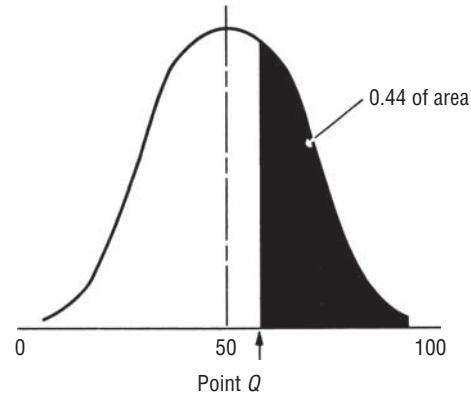

FIGURE 17-2 NORMAL PROBABILITY DISTRIBUTION, WITH 0.44 OF THE AREA UNDER THE CURVE SHADeD
Figure 17-2 illustrates the 0.44 probability that must exist before it pays our manager to stock another unit. He will stock additional units until he reaches point *Q*. If he stocks a larger quantity, the shaded area under the curve drops below 0.44 and the probability of selling another unit or more falls below the required 0.44. How can we locate point *Q*? As we saw in Chapter 5, we can use Appendix Table 1 to determine how many standard deviations it takes to include any portion of the area under the curve measuring from the mean to any point such as *Q*. In this particular case, because we know that the shaded area must be 0.44 of the total area, the area from the mean to point *Q* must be 0.06 (the total area from the mean to the right tail is 0.50). Looking in the body of the table, we find that 0.06 of the area under the curve is located between the mean and a point 0.15 standard deviation to the right of the mean. Thus we know that point *Q* is 0.15 standard deviation to the right of the mean (50).